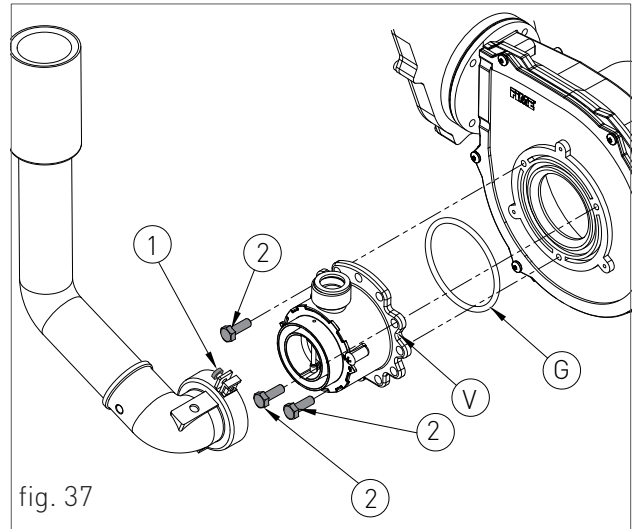
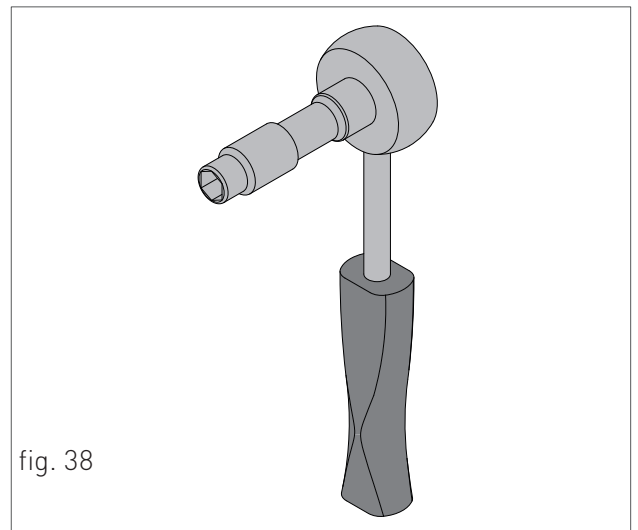

fig. 37
fig. 38
- › loosen the two screws '1' (fig. 37) from the fastening bush, and remove the air suction tube;
- › unscrew the three fastening screws '2' (fig. 37) of the venturi 'V' (fig. 37) using a 10 key, as shown in figure 38;
- › remount the components following the demounting operations in reverse making sure that gasket 'G' is re-assembled as shown in fig. 37;